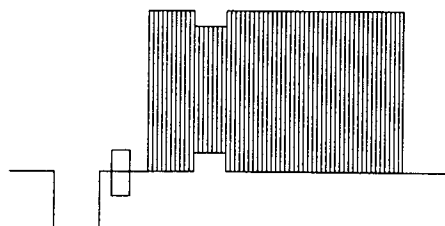

Figure 5
- 4) Adjust the upper core of tuner so that the amplitude of multi-burst signal is flat. (See Fig.5)